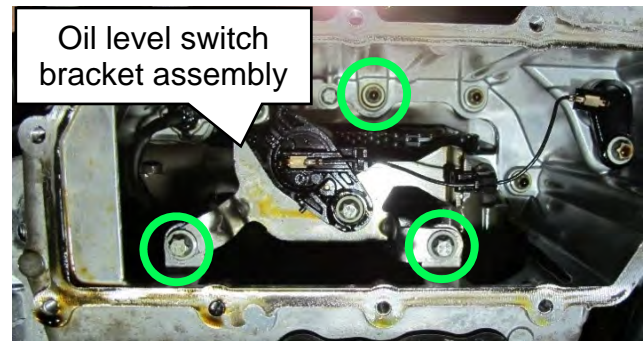

Figure 25
- Secure the oil level switch bracket assembly with the three (3) retaining bolts.
- To avoid damage to the oil level switch wiring harness, position it as shown in Figure 25.